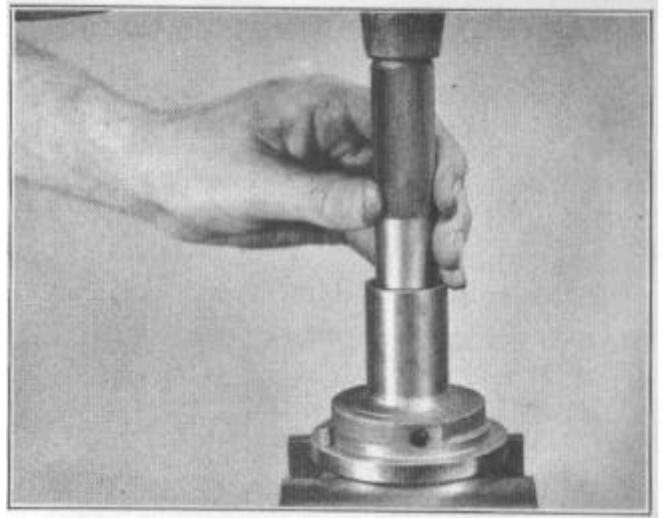

FIGURE 18
27. With retainer removed from case, insert the two seal engaging jaws of Oil Seal Remover J-1576, one at a time between metal portion of seal and retainer. Place the drift (part of remover set) between the jaws and drive out seal assembly, Figure 18.